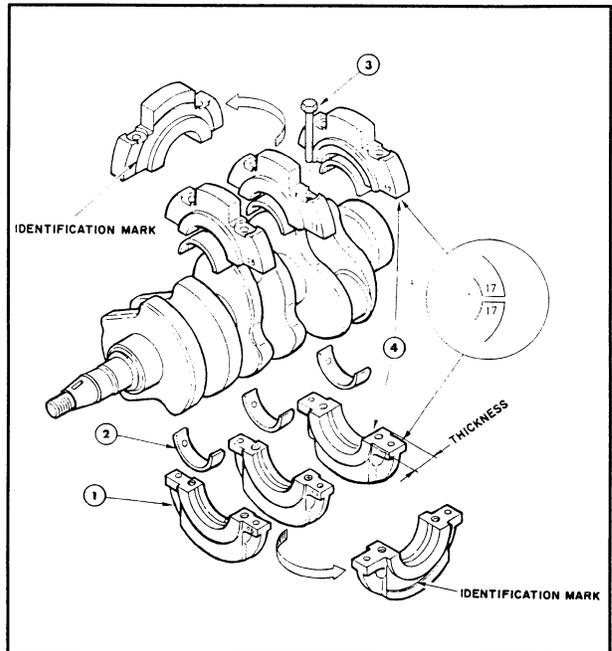

Figure 5
2. Install the bearing holder and tighten the bolts to the specified torque, Figure 5.
8. Tighten the bearing holder bolts on the cast iron bearing holder to 18-22 ft. lbs. (25-29 N·m) torque, Figure 5.
Tighten the bearing holder bolts on the aluminum die cast bearing holder to 14-18 ft. lbs. (19.61-24.51 N·m) torque, Figure 5.